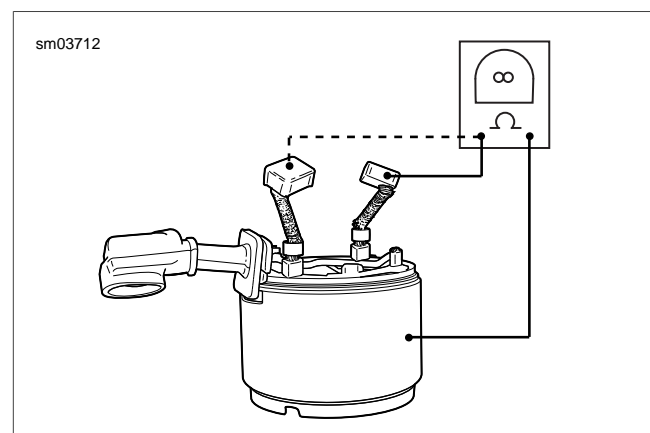

Figure 3-13. Grounded Field Test
3. See Figure 3-13. Check for a GROUNDED FIELD COIL WINDING with an ohmmeter or continuity tester.